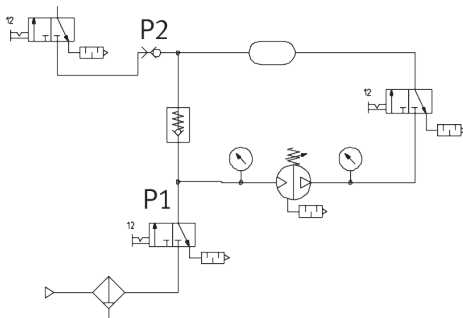

Fig. 4: Pneumatic circuit diagram installation with several soft-start valves
1. To fill the air reservoir, open the 3-way on-off valve between the pressure booster and the air reservoir → Fig. 4. Leave the 3-way on-off valve open during operation.